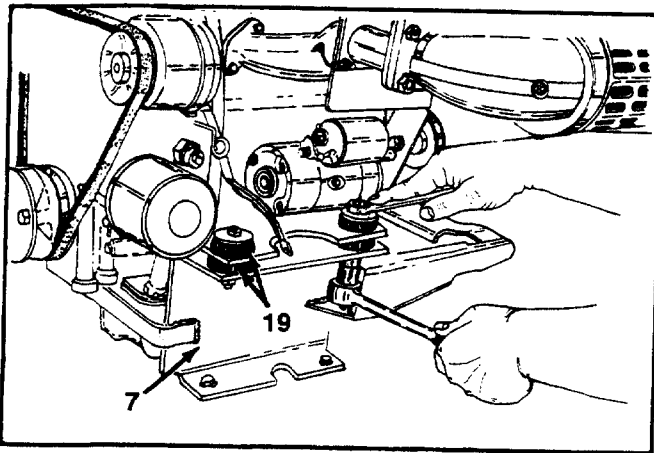

FIGURE 11.
12. Remove the four iso/mounts from engine and engine cradle. See figure 11.